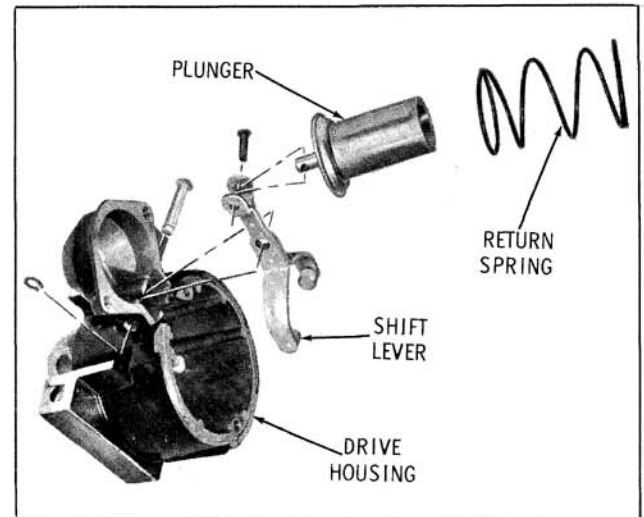

Fig. 13-51 Shift Lever Assembly
- b. To remove shift lever and/or plunger, remove shift lever pivot bolt. (Fig. 13-51)
- b. Position shift lever and plunger assembly in drive gear housing and install lever pivot bolt. (Fig. 13-51)